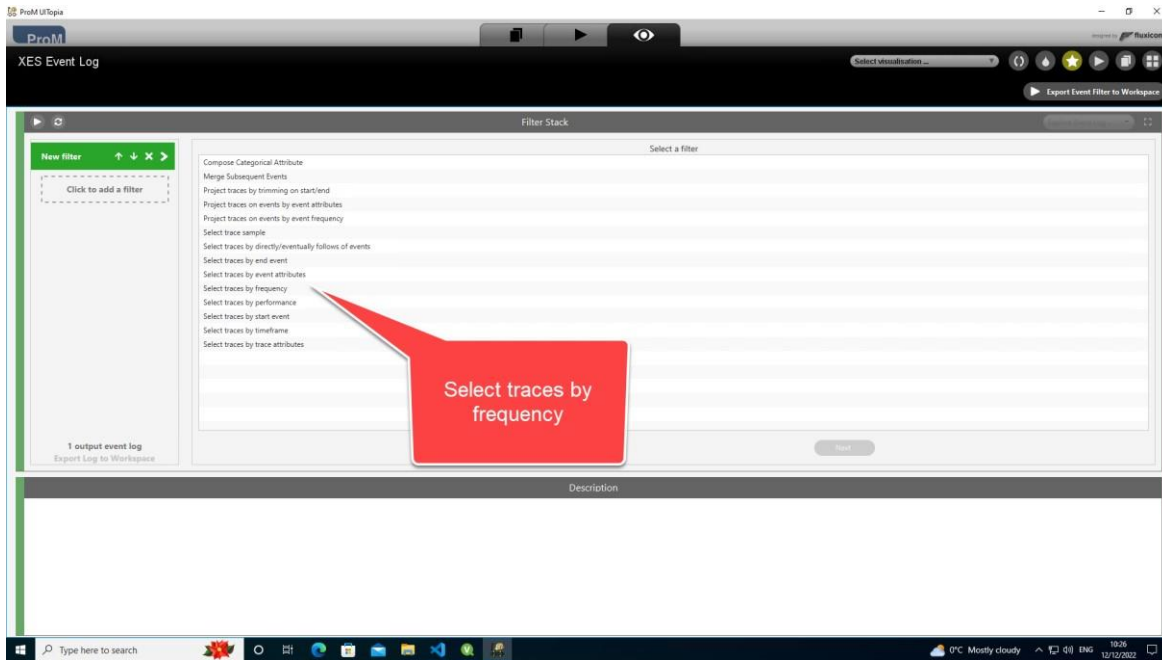

Figure 15 – Image showing how to select traces by frequency filter.
11. Select the “Select traces by frequency” filter in the next screen as seen in Figure 15.